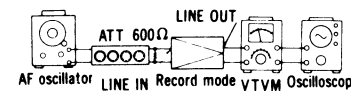

Fig. 37
Level meter Condition: - Record mode - Input level controls... MAX Equipment: - VTVM - AF oscillator - ATT - Oscilloscope - Resistor (600Ω)	1. Test equipment connection is shown in fig. 37. 2. Supply 1kHz signal from the AF oscillator, through the ATT to the LINE IN. 3. Adjust ATT so that the monitor level at LINE OUT becomes 0.39V. 4. Check to see that the level meter stays within the range of -1dB to +1dB. 5. If it is beyond the range, carry out the following adjustments: - Short soldered points (D) (L-CH) and (F) (R-CH) indicated as "DOWN" where level more than +1dB. - Short soldered points (C) (L-CH) and (E) (R-CH) indicated as "UP" where level less than -1dB. (See wiring connection diagram on page 10.)